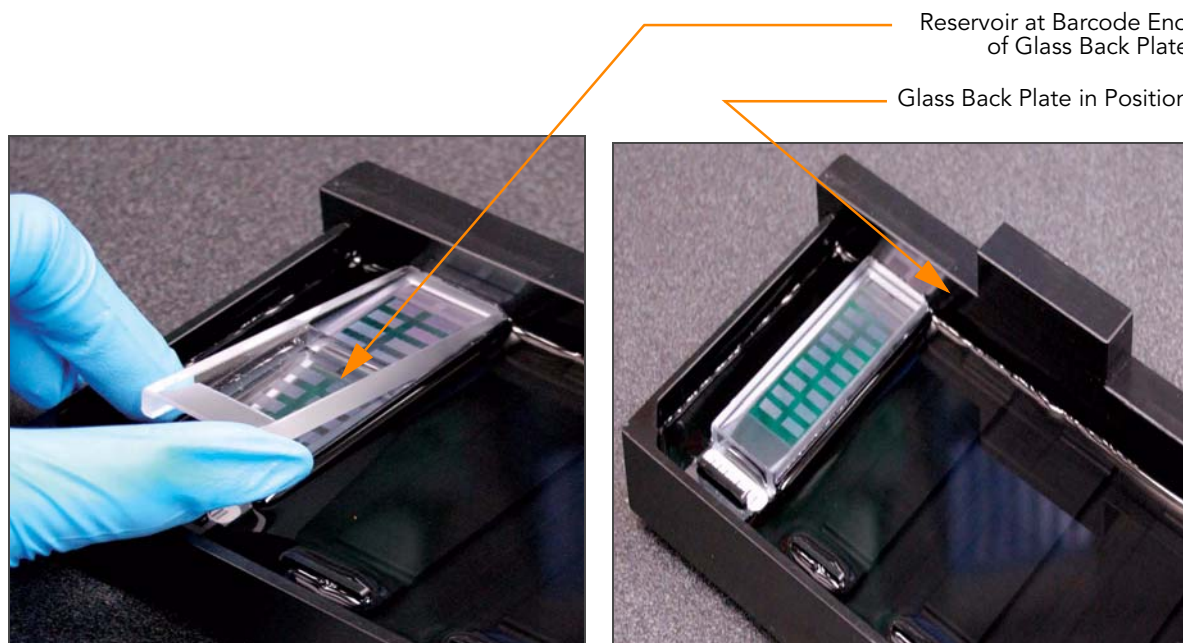

Figure 55 Placing Glass Back Plate onto BeadChip
7. Place a clean glass back plate on top of the clear spacer covering each BeadChip. The plate reservoir should be at the barcode end of the BeadChip, facing inward to create a reservoir against the BeadChip surface (Figure 55).